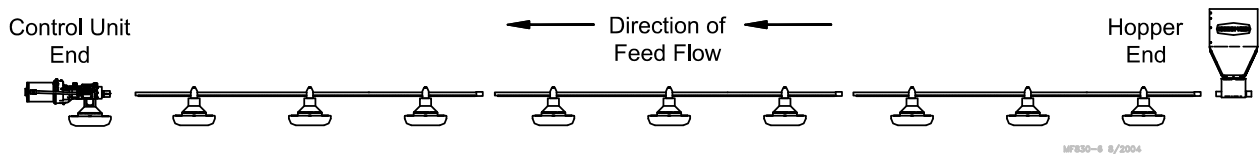

Figure 30. Assemble Feeders on Tubes
- The auger tubes and feeders may be laid out end to end in approximately the final location of the line. **The expanded end of each tube should be toward the Hopper end of the line, see figure 30.**